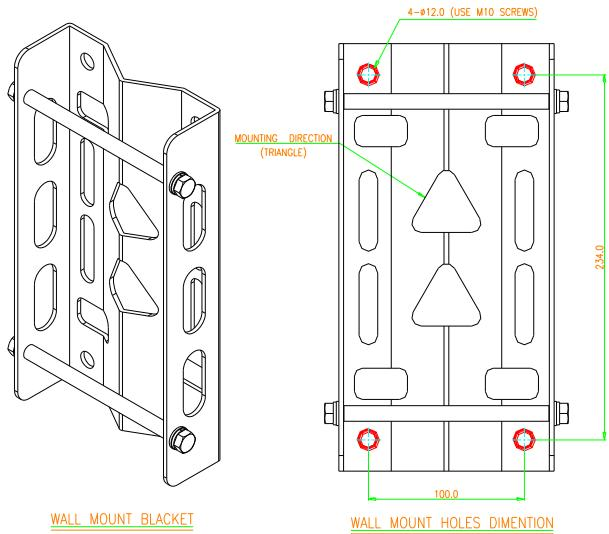

Figure 3-5 3/5/7 band RU, PS700/800 RU – wall mount bracket
- Check the suitability of the wall-mounting kit and the wall based on Figure 3-5